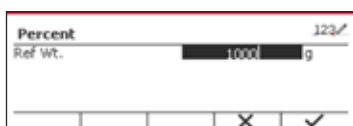

Figure 68
- Enter value using keypad. (See Figure 68)